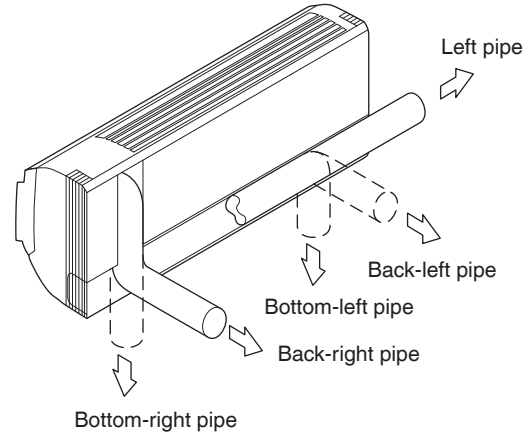
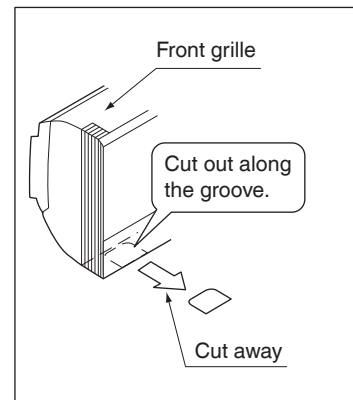

Fig. 3
Fig. 4
(1) Open the piping through-hole.
- The refrigerant pipe and drain pipe can be routed out in one of 5 directions: left, bottom-left, back-left, bottom-right, and back-right. (Refer to Fig. 3)
- Using the paper pattern for installation (3), choose where to route the piping out of the unit, and drill a through-hole ($\phi 3\text{-}1/8"$ ($\phi 80$)) in the wall. Open the hole so that there is a downward slope for the drain piping. (See "6. DRAIN PIPING WORK")
(2) Attach the installation panel (1) to the wall.
- (a) Check the location for the hole using the included paper pattern for installation (3).
- (b) Temporarily attach the installation panel (1) at the temporary-securing position on the paper pattern for installation (3) and use a level to make sure the drain hose is either level or tilted slightly downward.
- (c) Secure the installation panel (1) to the wall using either screws or bolts.
- If using the attachment screws for the installation panel (2), attach using at least 4 screws on either side, for a total of 9 screws of the recommended installation cleat position on the included paper pattern for installation (3).
(3) If using the left, bottom-left, or bottom-right positions for the piping, cut out the through-hole for the piping in the front grille. (Refer to Fig. 4)